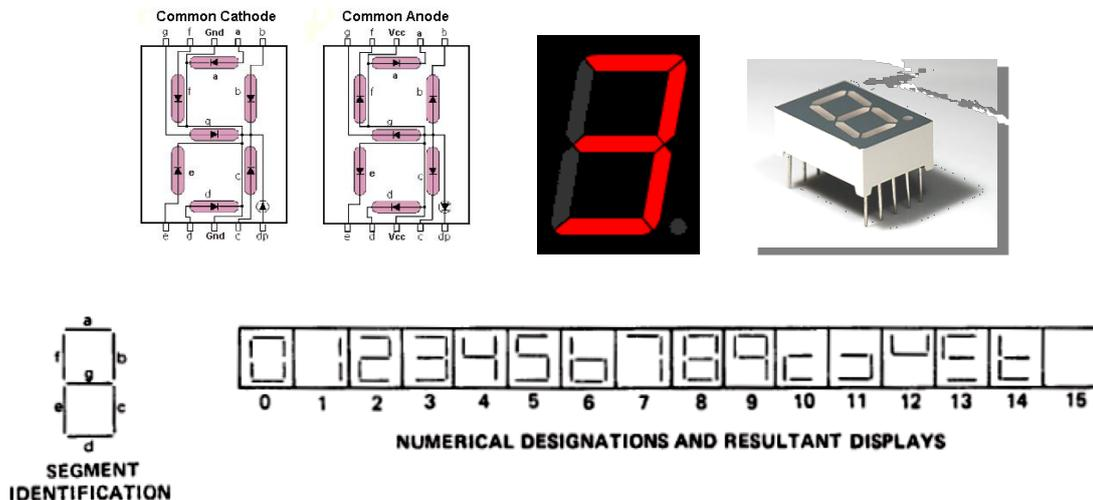

Fig. 1. Designation and display setup
3. The 7-segment display contains 7 LEDs in one package, as shown in Fig. 1. Note how the segments are named (a, b,c, etc.). The equivalent circuit of a Common-Anode (C/A) 7-segment display is shown in in Fig. 2. It has a common point connecting all of the anode terminals of the LEDs. This common point should connect to  $V_{CC}$  (i.e., +5V).